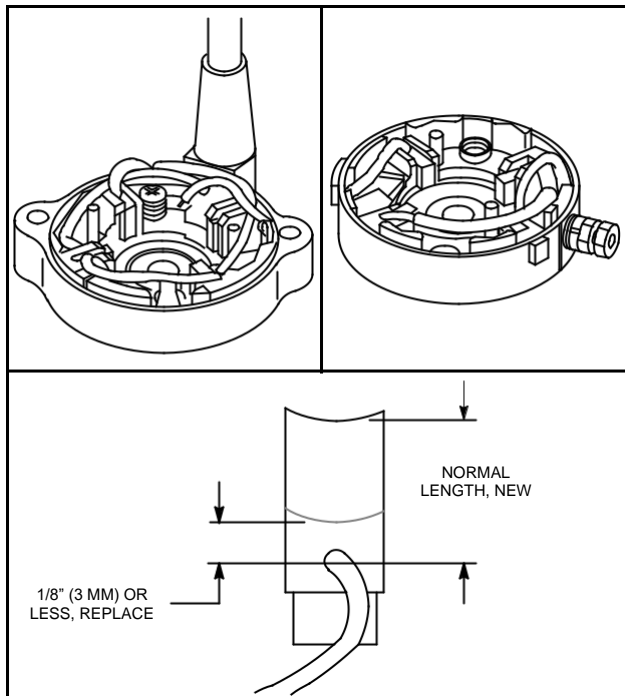

Fig. 702 – CHECKING BRUSHES
7. If brushes are worn to dimension shown in Fig. 702, replace.